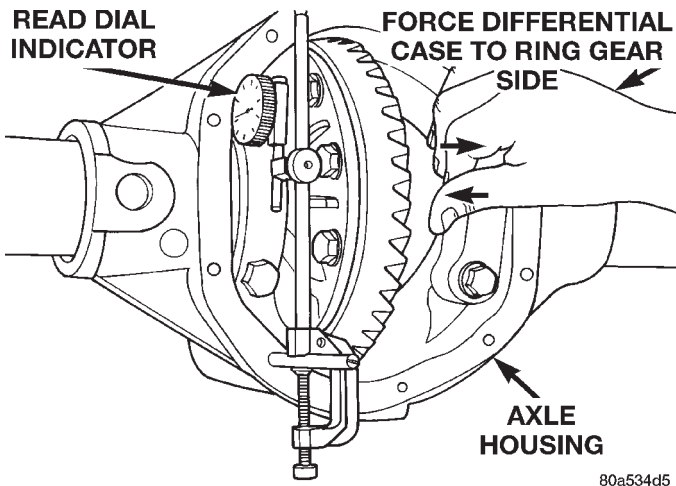

Fig. 67 Hold Differential Case and Read Dial Indicator
(12) Push and hold differential case to ring gear side of the axle housing (Fig. 67).
(13) Record dial indicator reading (Fig. 67).
(14) Add 0.015 in. (0.38 mm) to the zero end play total. This new total represents the thickness of shims to compress, or preload the new bearings when the differential is installed.
(15) Rotate dial indicator out of the way on the guide stud.
(16) Remove differential case and dummy bearings from axle housing.